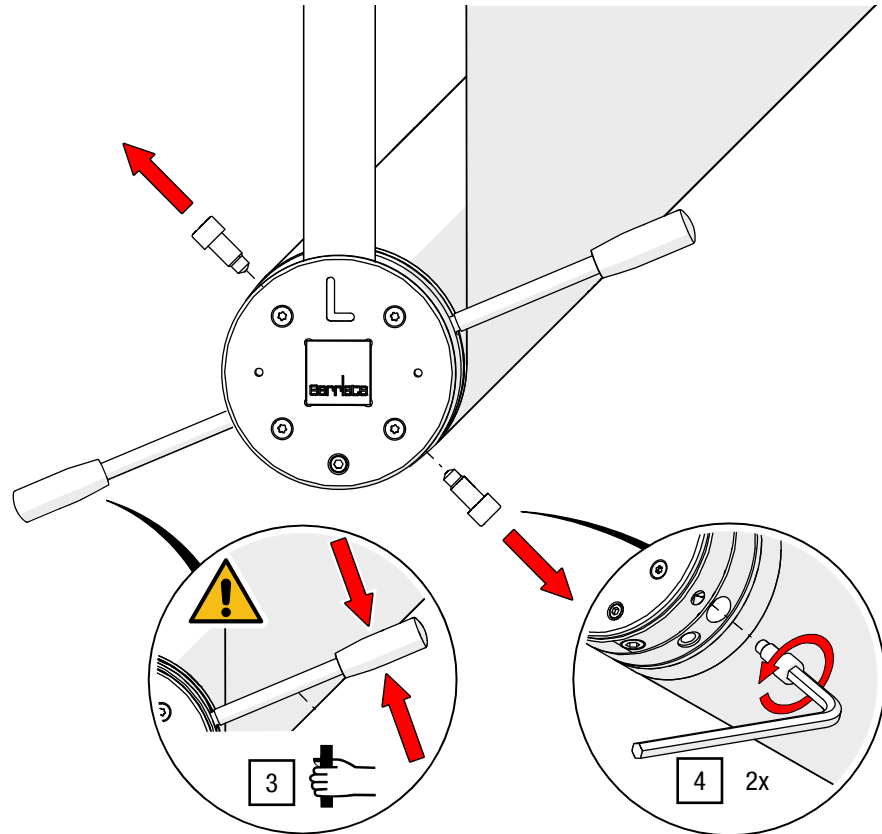

Fig. 31: Hold the clamping lever and loosen the clamping screws
3. Take the handle of at least one clamping lever firmly in your hand and hold it firmly (see Fig. 31).
4. With a second person, loosen the locking screws on the clamping ring using an Allen key AF 10 (see Fig. 31).